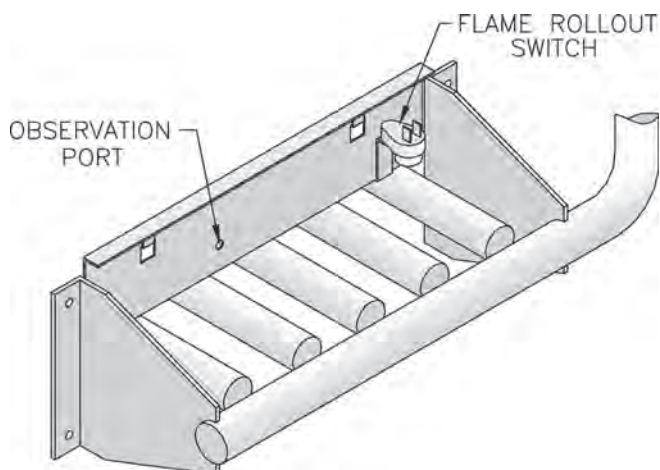

Figure 2: Flame Rollout Switch
4. **Flame Rollout Switch** See Figure 2. A device which automatically interrupts boiler operation when flames or excessive heat are present in the vestibule. The control is a single use device. If the control was activated to interrupt boiler operation, do not attempt to place boiler in operation. Contact a qualified service agency.